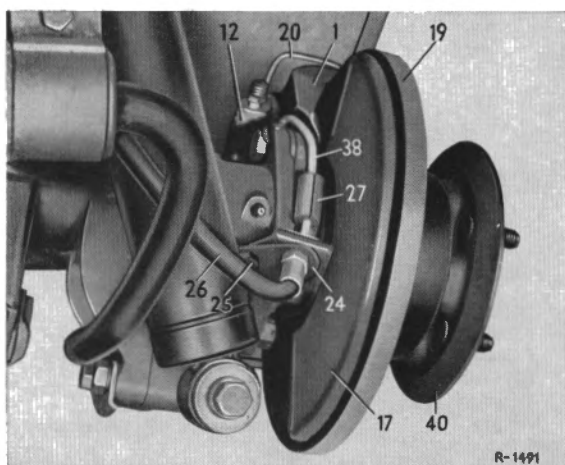

Fig. 42-7/26
Note: On cars equipped with Teves Brake calipers, a modified cover plate (5) (Fig. 42-7/24) has been installed. In this version the bracket with weld-on nuts is no longer required since the hexagon fitting bolts are screwed into the weld-on nuts of the cover plate.